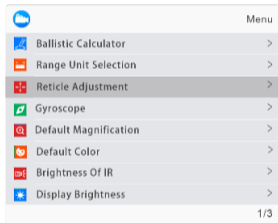

Fig. 16
Home screen mode: press [key 4] to enter the menu mode, where you can set various function options within the menu bar. Please note that the shortcut key function is disabled in this mode (Fig. 16).